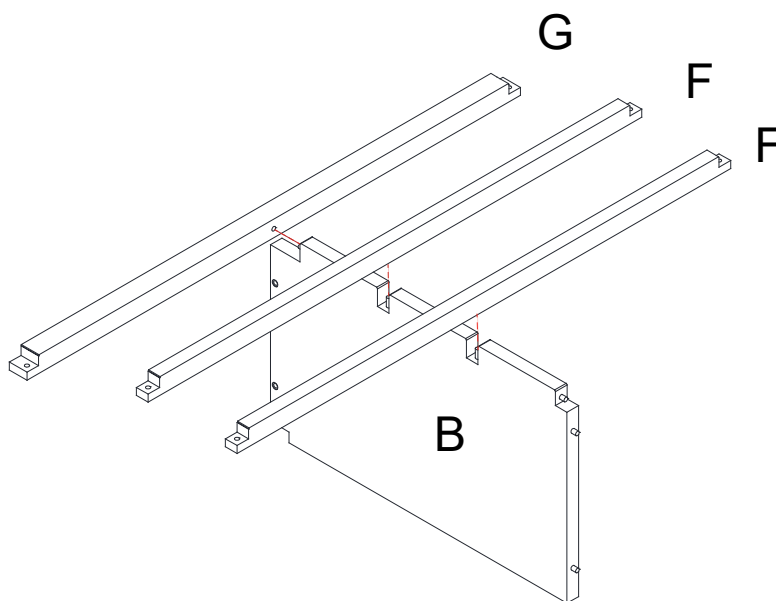

Figure 3
- ③ Attach 1 Front - Upper Rail (G) & 2 Front - Middle Rail (F) to Middle Panel(B) as Figure 3.
3. Secure both sides of Drawer Front (R) to drawer assembly with four (4) Screws (j) . *Figure 3*